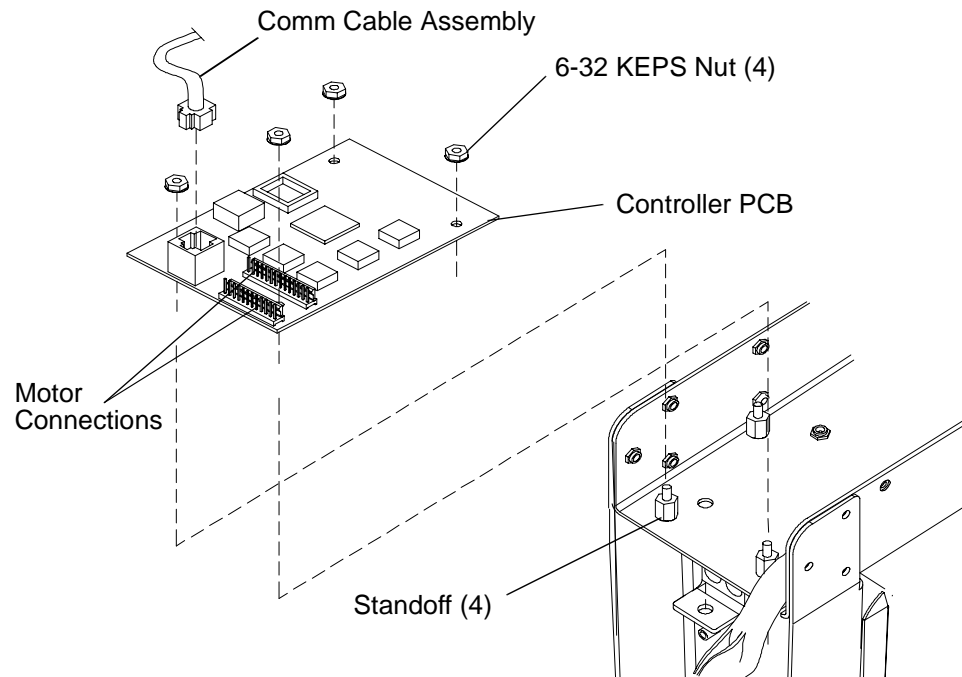

Figure 2-28: VL6B/VL6C Luminaire Controller PCB Assembly Replacement
Step 3. At PCB, disconnect all cables. **Figure 2-28.**